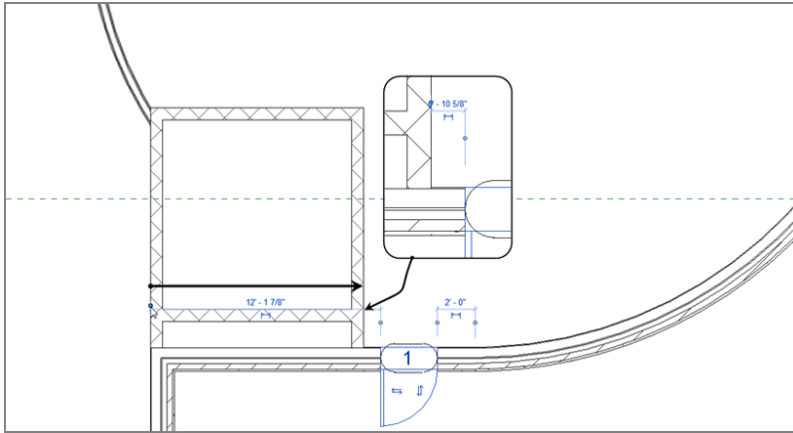

FIGURE 2.68: Moving the witness line to a more appropriate location
- 2. Move the left witness line of the left temporary dimension to the outside face of the CMU wall, as shown in Figure 2.68.